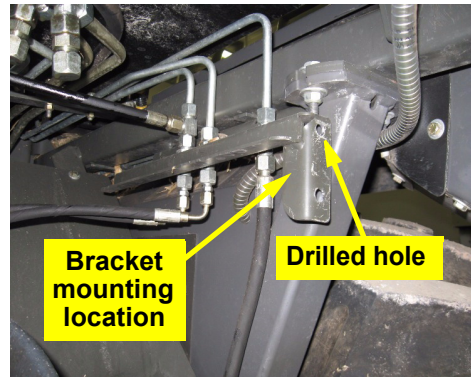

Figure 2a: Bracket mounting location and drilled hole
- a. The automated steering block will be mounted on the left side of the machine under the cab (Figure 2a).
- b. Using bracket **E** as a template, drill one 3/8 hole in the bracket mounting location (Figures 2a and 2b).